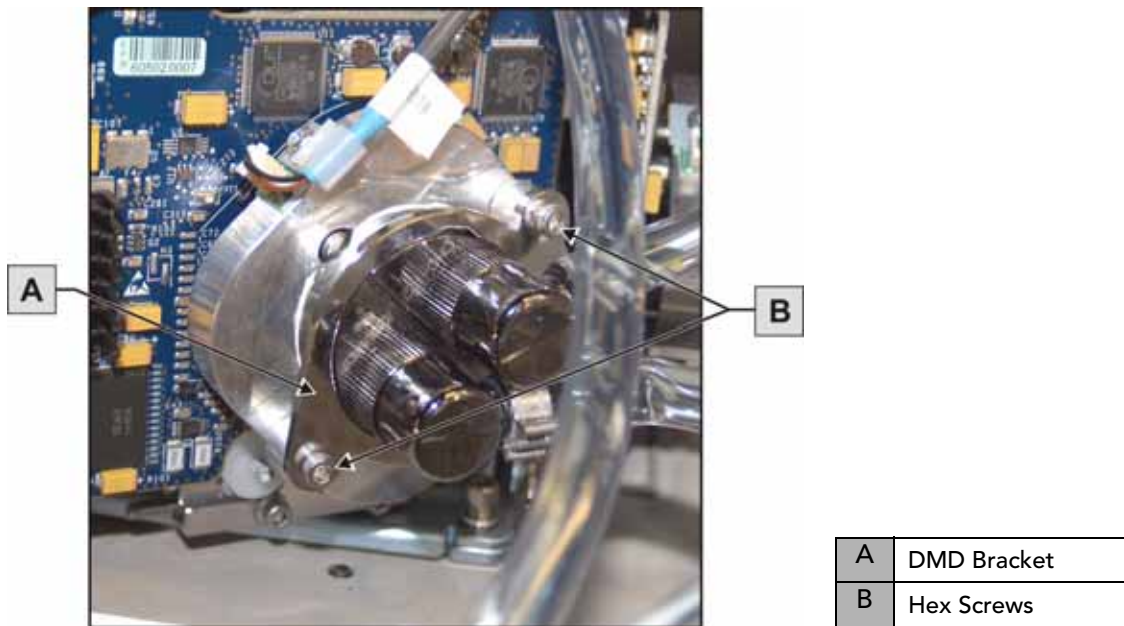

Figure 5-78 Remove Bracket
5. Remove the two hex screws (3mm) and the bracket from each DMD (**Figure 5-78**).